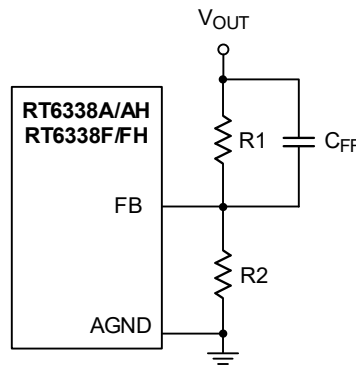
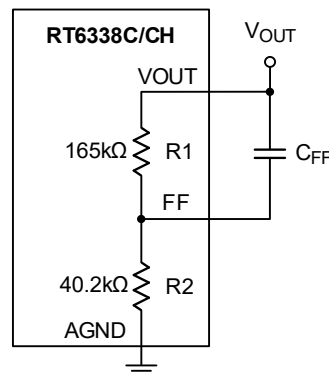
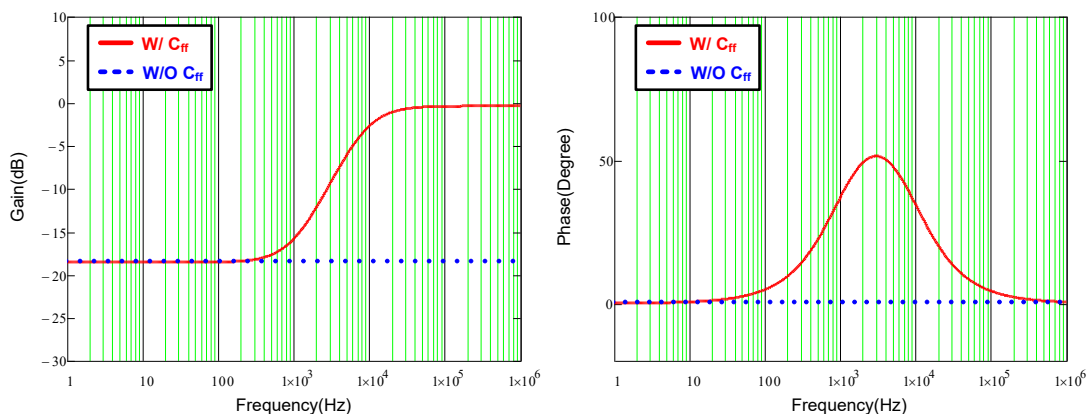

Figure 16. RT6338A/AH Feedback Loop with Feedforward Capacitor
Figure 17. RT6338C/CH Feedback Loop with Feedforward Capacitor
Figure 18. Bode Plot with Different Feedback Loop Conditions
To save time for compensator design and to reduce the layout area through external components, the components of compensator are integrated in the IC. However, this integrated compensator might not be suitable for every load transient specification. Hence, to make the RT6338 more adaptable, the feedforward capacitor C_{FF} is used in the feedback loop to improve transient response, as shown in Figure 16 and Figure 17. Figure 18 shows the comparison result of bode plot with different feedback loop conditions. As shown in Figure 18, adding a C_{FF} to the feedback network increases both gain and phase in the mid-frequency, which not only extends the bandwidth but also boosts the phase margin. Moreover, there is also a high-frequency pole to eliminate high-frequency noise. Consequently, those features of the feedforward feedback network allow the RT6338 to have faster response to different load transients.
According to Figure 18, the maximum phase boost that occurs between zero and pole frequencies is defined as maximum phase boost frequency, as expressed in equation (4). Hence, in order to achieve the maximum phase boost by adding CFF in the RT6338, the system's original bandwidth has to be located at maximum phase boost frequency.